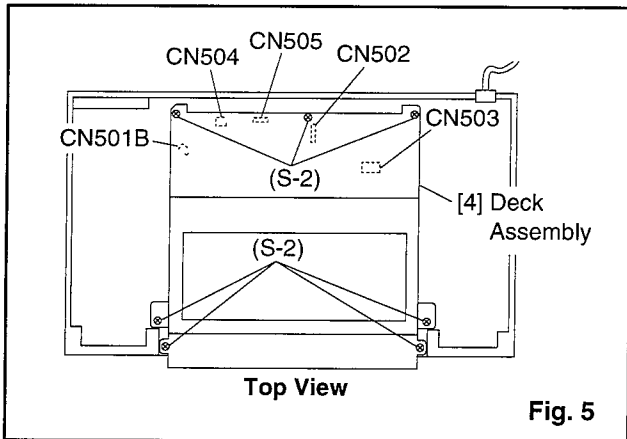

Fig. 5
3. Remove 7 Screws (S-2). Then slowly lift Deck Assembly up. Lifting Deck Assembly disconnects 5 Connectors (CN501B, CN502, CN503, CN504, CN505). (Fig. 5)